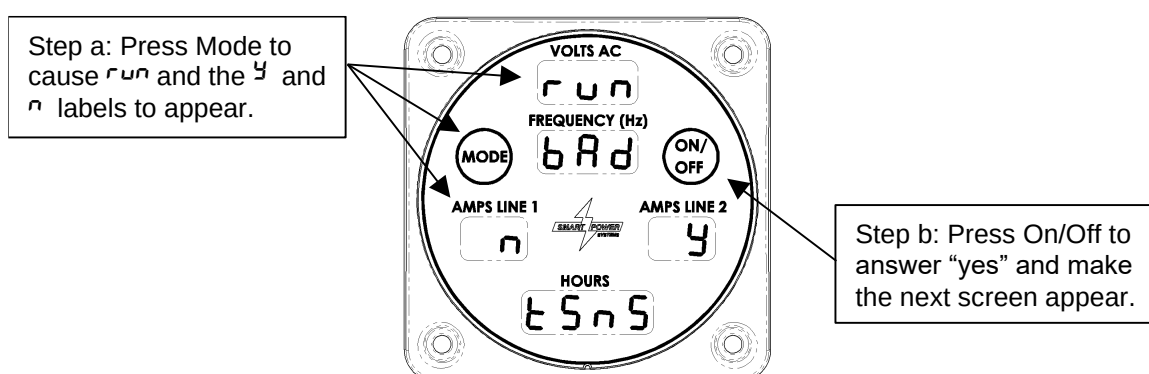

Figure 25 – Temperature Sensor Fault Override
- a. From the Normal mode display, press Mode, as if you wanted to display the oil temperature. The screen shown in Figure 25 will be displayed instead, asking if you want to “Run [with a] bad t5n5 [temperature sensor].” This screen will also be displayed if you attempt to start the generator with the condition present.